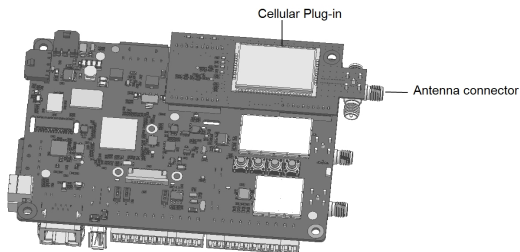

Figure 4: Installed Plug-in and antenna connector
9. Pull the excess cable into the inverter so that the cable can be attached to the inverter communication board (see *Figure 4*). The cable connects to the cellular Plug-in as described in the next section.
1. Locate the Plug-in in its place on the communication board, as shown in *Figure 4*.